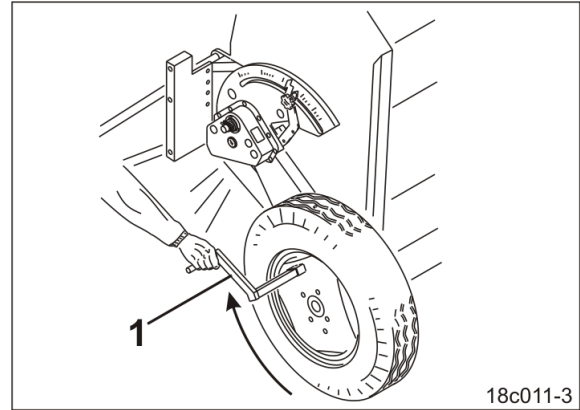

Fig. 223
- 12.3 Insert the calibration crank (Fig. 223/1) into the square tube on the right wheel.